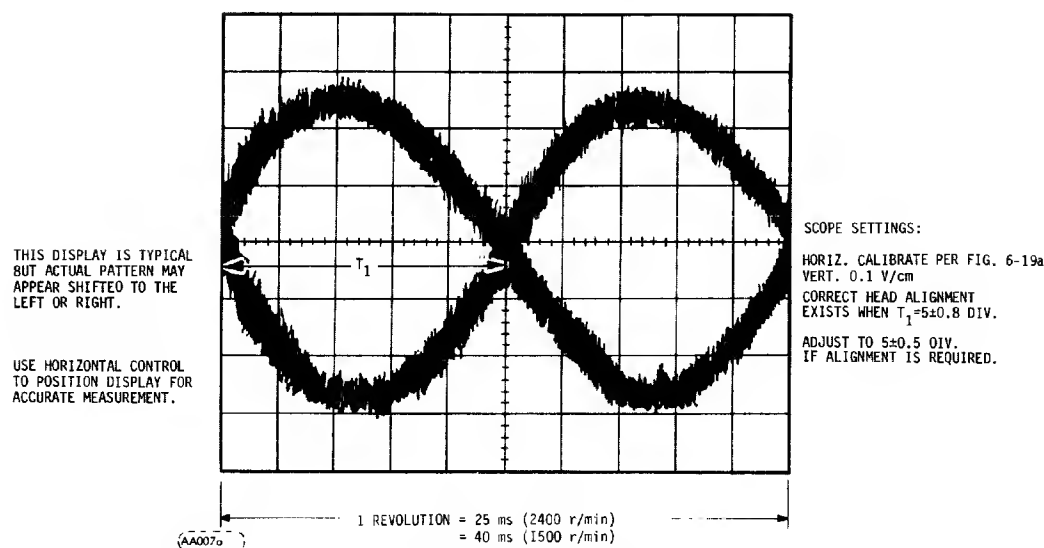

FIGURE 6-19B. HEAD ALIGNMENT WAVEFORM
24. Using the horizontal position control, move the display so that an accurate measurement between two consecutive crossover points can be obtained. (See Figure 6-19b.) The head is in alignment if this measurement does not exceed 5 ± 0.8 divisions. If this head meets the alignment requirements proceed to Step 28 and repeat this procedure. If not aligned to specification, continue.
26. Using head alignment tool (CDC #75797900) adjust head to 5 ± 0.5 divisions. (See Figure 6-19b.)
30. Using head alignment tool (CDC #75797900) adjust head to 5 ± 0.5 divisions. (See Figure 6-19b.)